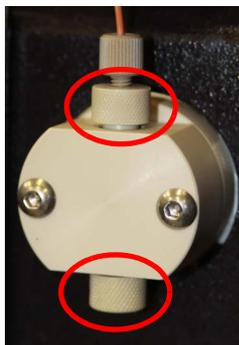

Figure 8-11 Check valve holders
1. Remove the inlet and outlet lines from the check valve holders (Figure 8-11), and then remove the check valve holders. Pliers may be needed to remove the holders.